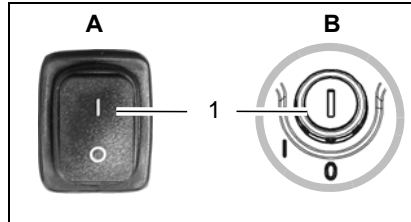

Fig.4
- Switch the machine on by actuating the switch (Fig. 4/1) from position (0) to position (1).